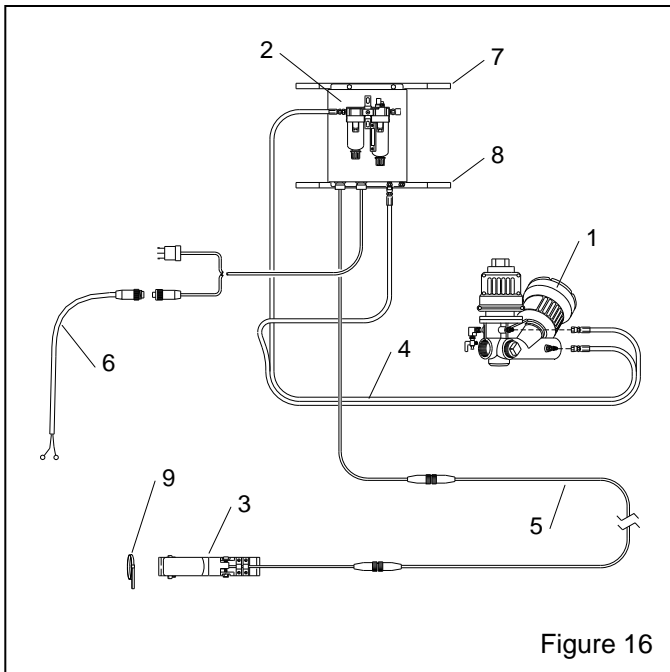

Figure 16
8.3 Remote Control System Parts, Figure 16